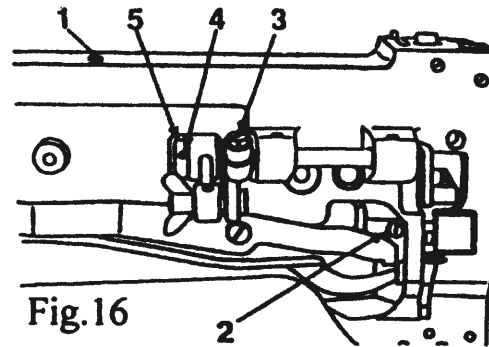

Fig.16
Loosen the screw(1.fig.16), raise the presser bar lifter and loosen the set screw(2.fig.16) ,move the lifting presser foot up or down as may be required so as to get the correct height and tighten screws.
If the height of the lifting presser foot changes, the momentums of the lifting and vibrating presser foot vary, thus the height of the vibrating presser foot must be adjusted. Lower the presser bar lifter, holding the vibrating presser foot and loosen the screw(3.fig.16) and move the presser foot up or down as may be required. After setting the position, tighten the screw.
19.TIMING OF THE VIBRATING PRESSER FOOT (Fig.16)
This is the normal timing when turn the pulley toward you, after lowering the presser bar lifter, the vibrating presser foot should reach the feed dog earlier than the needle eye comes to, and when the needle raises, the vibrating presser foot should leave the feed dog after the needle eye has left the feed dog. This is due the reason that the vibrating presser foot must tightly hold the goods while the needle is passing the goods for avoiding irregular stitches. To adjust this, set the lift of the alternating presser feet to equal, loosen the two screws(4, fig.16) and adjust the rotating position of the cam faster or slower as may be desired, and tighten the screws.